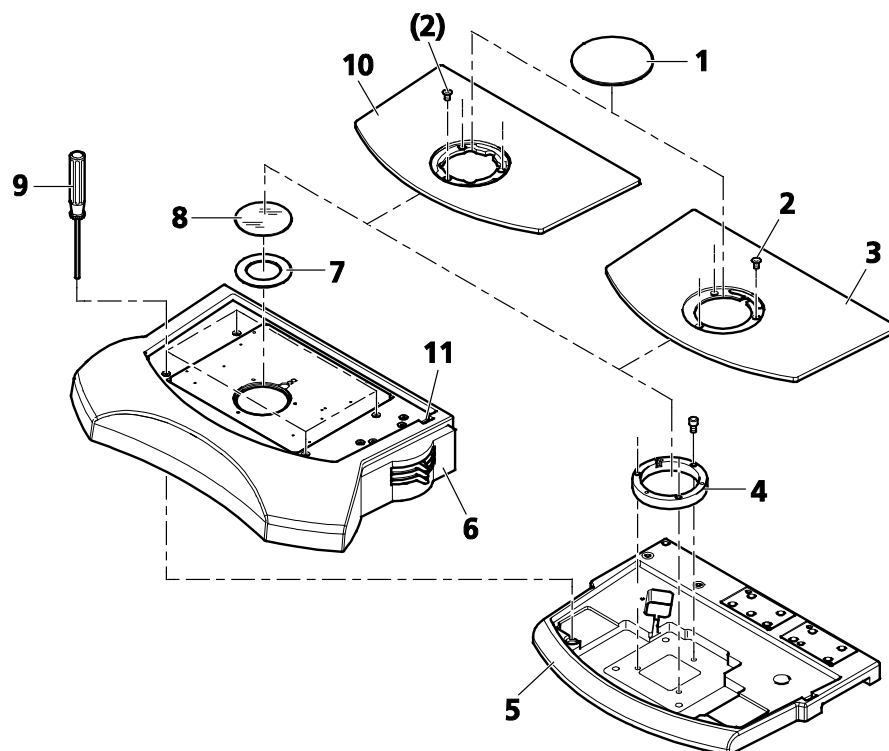

Fig. 20 Mounting transmitted light unit S
- Remove the base insert plate (Fig. 20/3). To do this loosen the short socket head screws (Fig. 20/2), lift the insert plate (use recessed grip on the right edge of stand base (Fig. 20/5) for the purpose) and lift securely with both hands.
- Loosen the three socket head screws (SW 3) on the adapter ring (Fig. 20/4) using a ball-headed screwdriver and remove the adapter ring.
- Insert the transmitted light unit (Fig. 20/6) onto the stand base. The two large plastic taper pins on the bottom of the transmitted light unit must click into the stand base.
- Use the ball-head screwdriver (Fig. 20/9) to screw down the four countersunk socket head screws (SW 3) hand-tight on the transmitted-light unit.
- Lay the base insert plate (Fig. 20/3) onto the transmitted light unit (Fig. 20/6).
- Insert the opal glass plate $\varnothing$ 84 mm (Fig. 20/8) to prevent screws and other small parts from being lost in the course of further installation work.
- Use the three short socket head screws (Fig. 20/2) to fasten the base insert plate (Fig. 20/3) (without stage adapter) to the transmitted-light equipment.
- Replace the opal glass plate $\varnothing$ 84 mm (Fig. 20/8) with insert 52/84 (Fig. 20/7).
- Insert glass plate 120 mm (Fig. 20/1); press on rear edge to remove it again.
- Remove glass or B/W plate (Fig. 20/8) and insert 52/84 (Fig. 20/7).
- Remove the base insert plate (Fig. 20/3). To do this, loosen the short socket head screws (Fig. 20/2).
- Install the ferromagnetic insert plate 450 (Fig. 20/10) or heatable insert plate 450 and secure with three socket head screws.
If the heatable ferromagnetic insert plate 450 is used, pass the two heating cables side-by-side through the cut-out in the insert plate and secure with three clamps. Then pass the two heating cables to the outside through the lateral cavity (Fig. 20/11) in the transmitted light unit S and connect to controller SC 300.